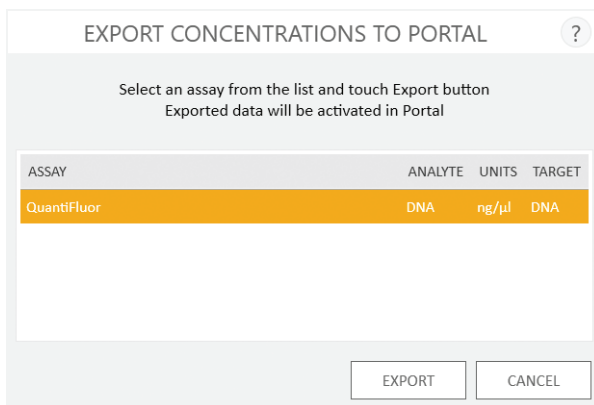

Figure 80. 'Portal Data Export' screen. Select the concentration assay into which concentration data should be imported and press the **Export** button.
2. The 'Portal Data Export' screen (Figure 80) lists all the concentration assays into which concentration data can be imported. Concentration assays are described in the *Portal Access Technical Manual #TM549*. Only assays which have a single concentration target are listed on the 'Portal Data Export' screen. Select the concentration assay into which concentration data should be imported.